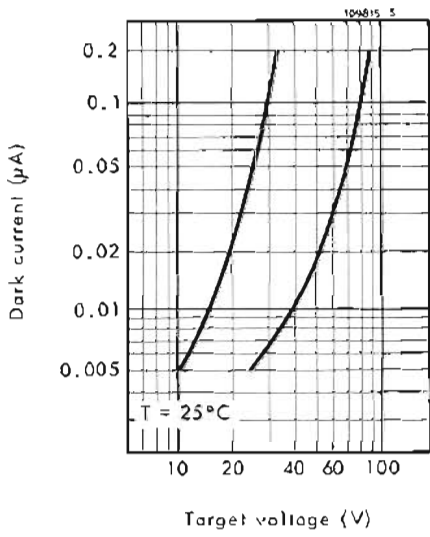

Figure 4 - Range of dark current
- 4 – The target current is the total current drawn in the load resistance that is connected to the target : signal current + dark current ; the dark current is the component existing when the illumination is removed. Figure 4 illustrates the operating target voltage range normally encountered. The target voltage for each vidicon must be adjusted to that value which gives the desired operating dark current.